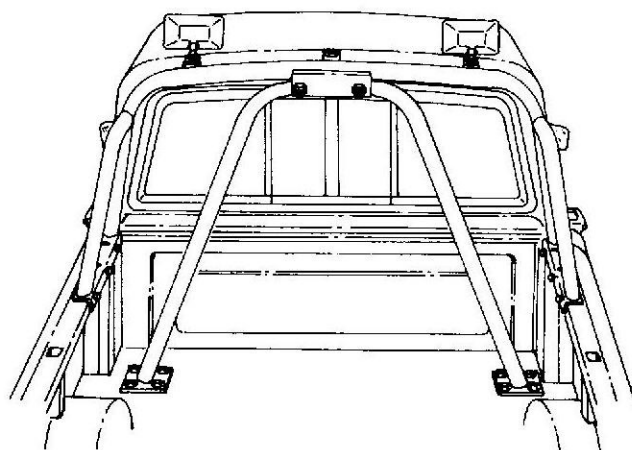
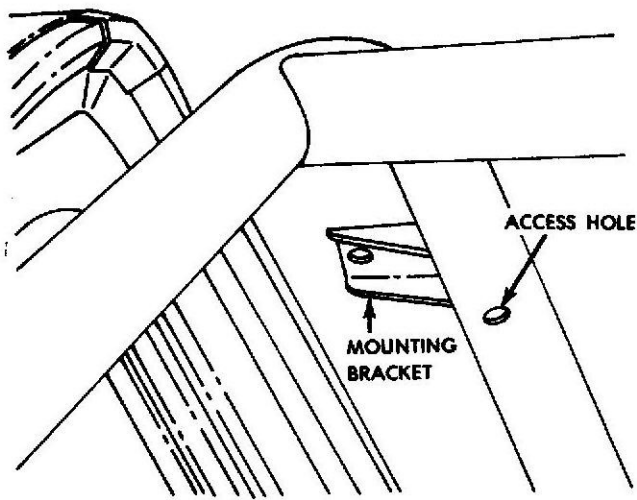
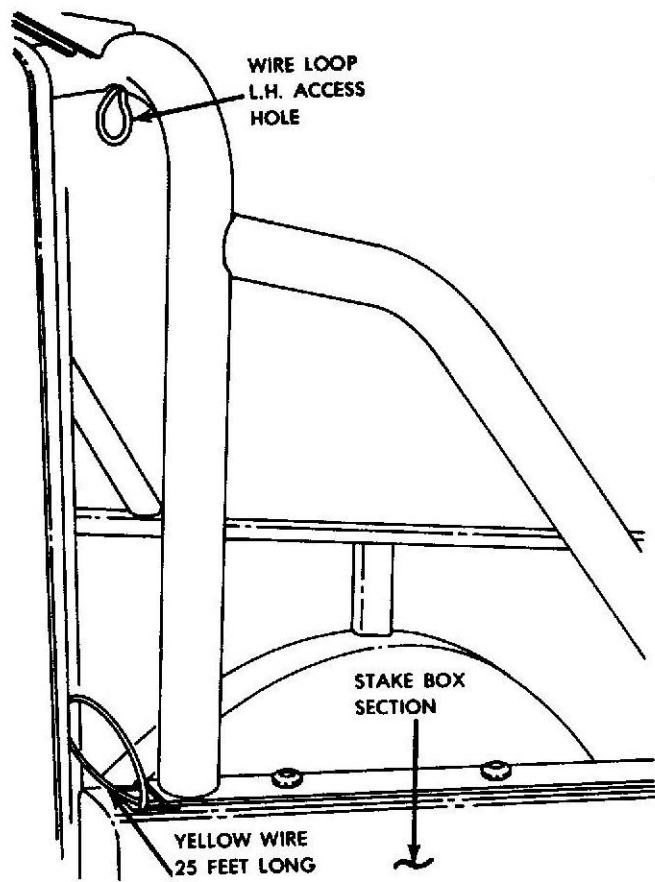

Fig. 1 Off-Road Driving Lamp Kit (Installed)
Fig. 2 Roll Bar Access Hole (L. H. Shown)
Fig. 3 Roll Bar Wire Routing
- (1) Position driving lamps on roll bar mounting brackets and tighten nuts (Fig. 1).
- (2) Attach end of 25 ft. yellow wire (terminal end) to a snake wire.
- (3) Insert snake wire (with yellow wire attached) into bottom left corner of pick-up box and feed through stake box section and into roll bar. Continue snaking wire through roll bar until end of wire reaches access hole in underside of roll bar at right hand lamp (Fig. 2).
- (4) Remove snake wire and attach terminal end of yellow wire to right hand lamp.
- (5) Insert bushing in right hand access hole of roll bar.
- (6) Pull a loop of wire from left hand access hole in roll bar.
- (7) Cut wire loop and strip ¼ inch of insulation from each end (Fig. 3).